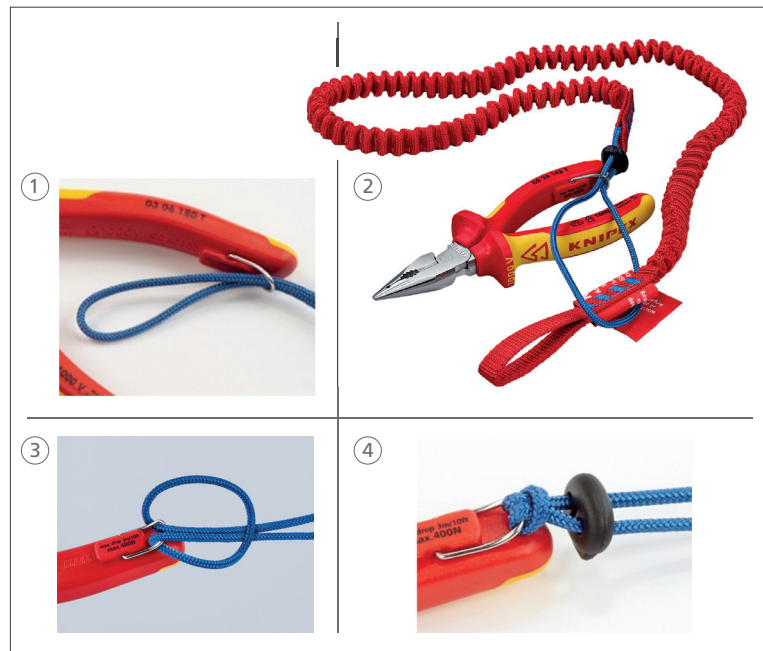

Figure 8: Connection via loop
- KNIPEX Tools with a tethering point should only be connected by loop (Figure 8).
Attach the other end of the Lanyard to an anchor point that is suitable and reliable for tool tethering either by loop or by a carabiner (see Chapter 4.1.3, figure 8 and 4.1.4).